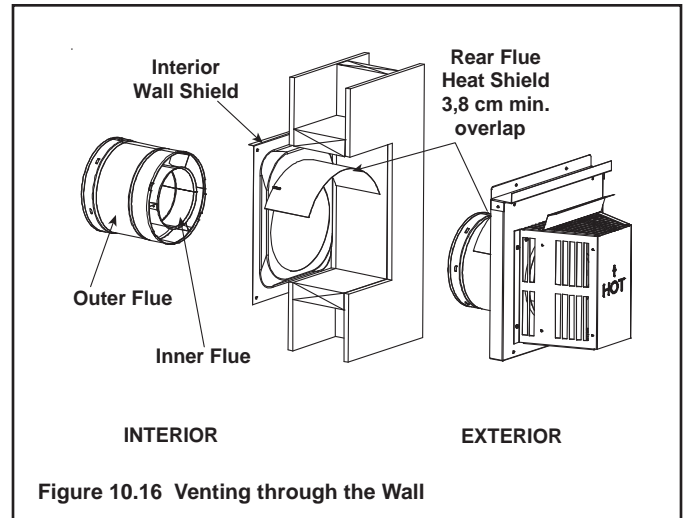

Figure 10.16 Venting through the Wall
- One section of the heat shield is attached to the wall shield. The other is attached to the termination cap in the same manner (see Figure 10.16).
- The small leg in the shield rests on top of the flue to properly space it from the pipe section (see Figure 10.16).